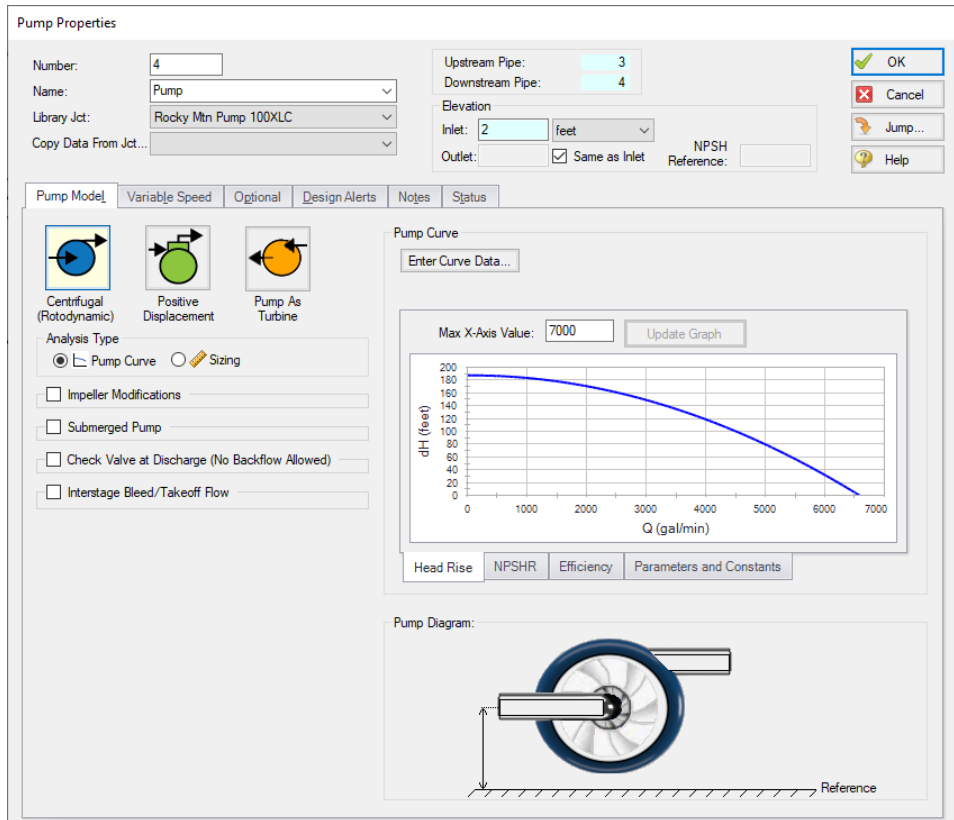

Figure 22: Pump Properties window with the Rocky Mtn Pump 100XLC selected
3. Go back to the Workspace. In the properties window for each of the **pumps** select **Rocky Mtn Pump 100XLC** from the Library Jct list to import the pump data from the library as shown in Figure 22, then click OK.